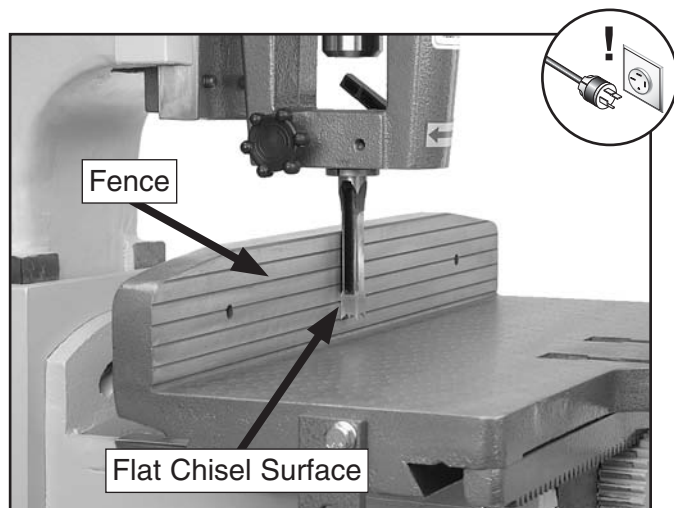

Figure 16. Chisel squared with the table fence.
- Position the table fence against the back of the chisel, loosen the chisel sleeve locks, then rotate the chisel until the flat surface is square with the fence (see **Figure 16**). Lock both the chisel sleeve lock knob and lever to secure the chisel assembly for operation.